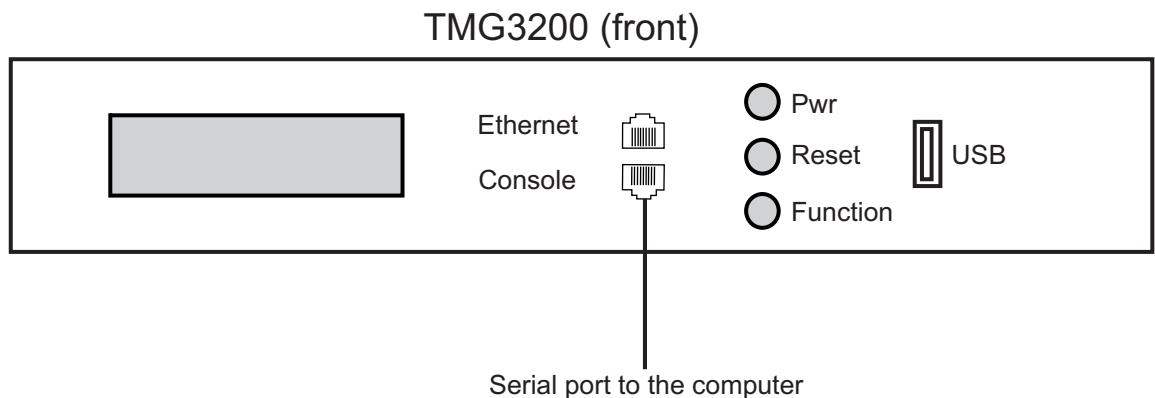

Figure 5.1 Computer to TMG3200 Serial Port Connection
1. Connect a CAT5 RJ-45 (male-male) cable (supplied with unit) between the com port of your computer and the serial port of the TMG3200 as shown in figure 5.1 on page 32. See figure 5.3 on page 33 for a RJ-45 pinout description.